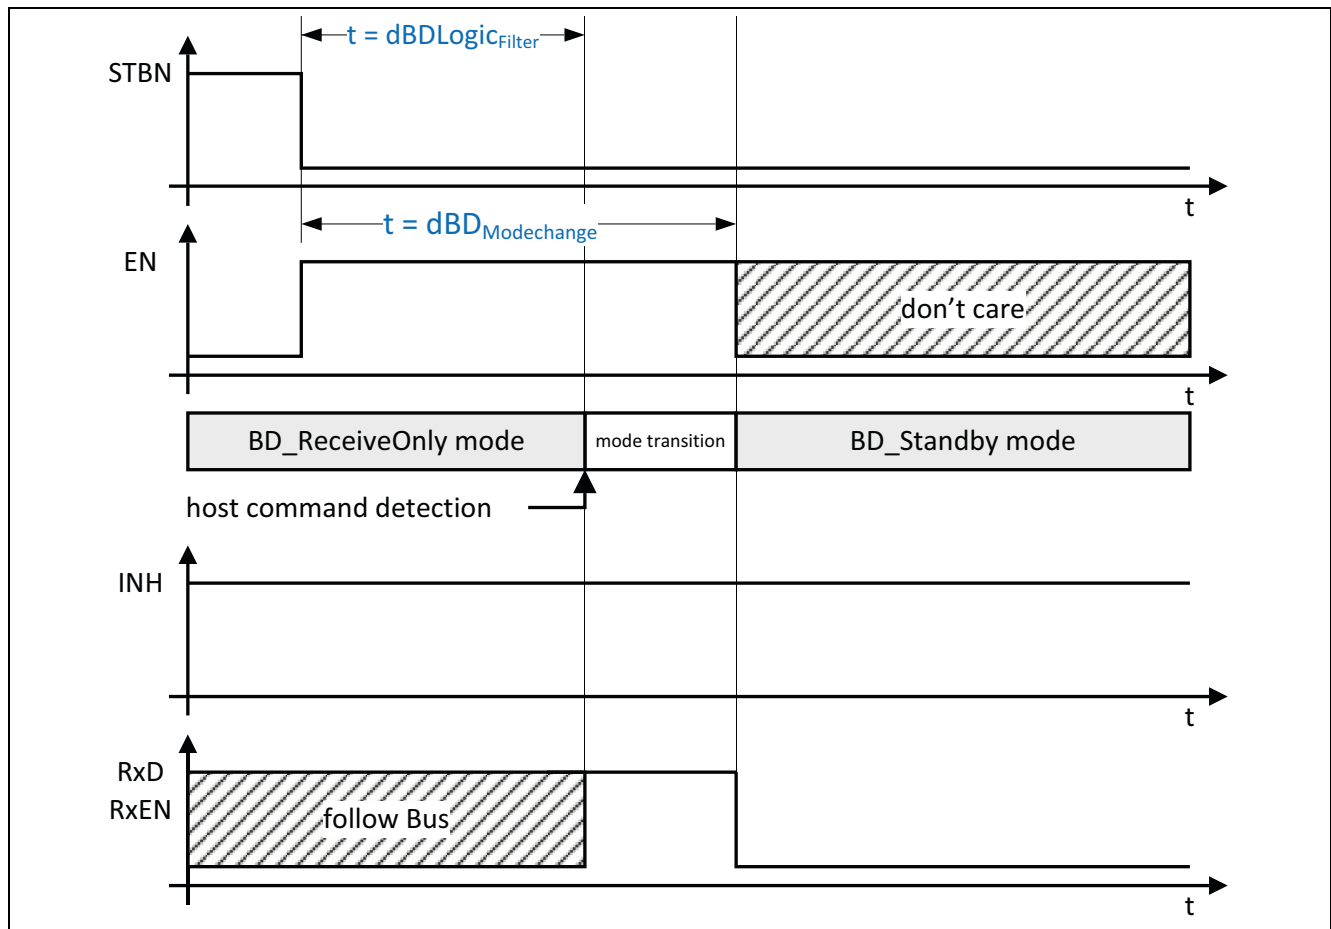

Figure 34 Changing over to BD_Standby, with an active wake-up flag
- 10) The BD_GoToSleep command cannot be executed while the wake-up flag is active (see Figure 34). The TLE9221SX changes over to BD_Sleep mode.
Applying the BD_GoToSleep host command to the TLE9221SX, while the wake-up flag is active, changes the operating mode directly to BD_Standby mode. The RxD and RxEN outputs are set to "low" and indicate a previous wake-up event (see Figure 34 and Table 14).